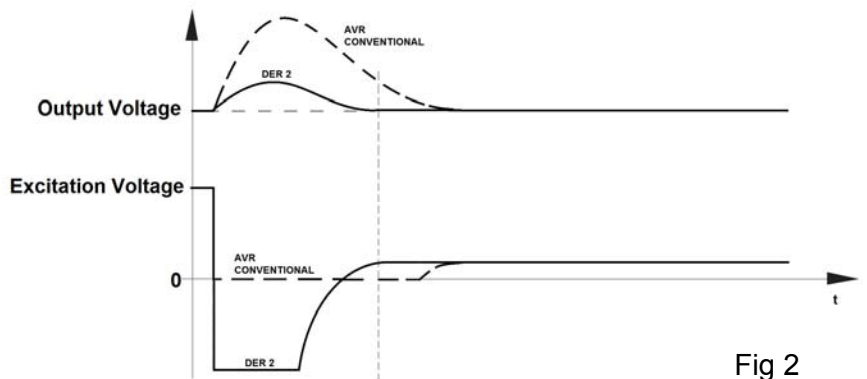

Fig 2
- Power connections through 20 poles(1) Fast-On connector (see fig.2)
The trends of the output voltage and the excitation voltage in function of time of the DER2 controller and a conventional regulator, which does not allow the excitation voltage inversion, are compared in Fig. 2